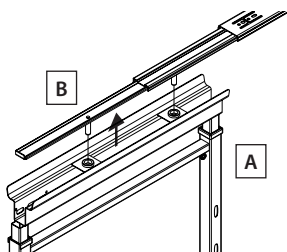

fig. 6
7) Two pins in top slide (B) insert into mating bushings in the top of the frame (A) as shown in figure 6.